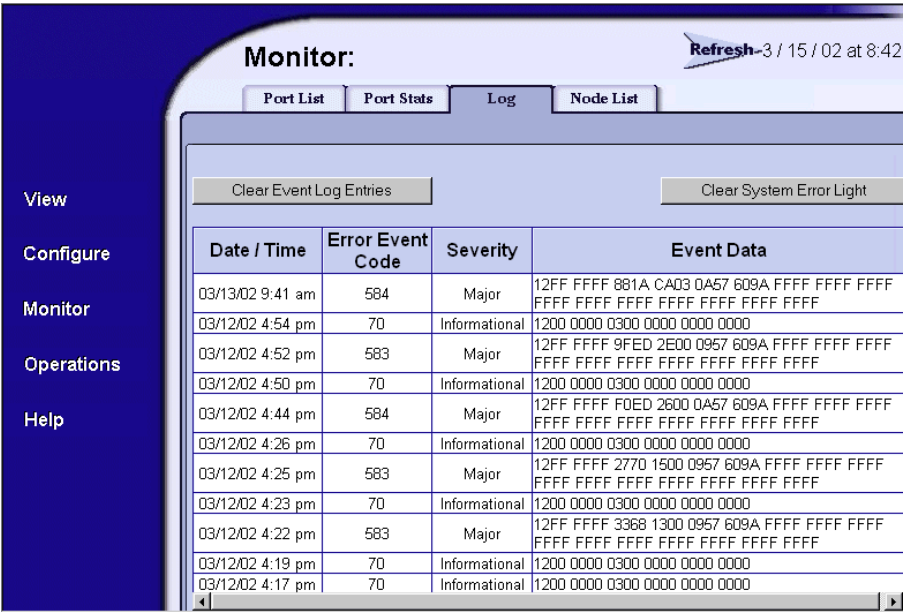

Figure 3-12 SANpilot Interface, Monitor Panel
- b. At the *Monitor* panel, click the *Log* tab. The *Monitor* panel (*Log* tab) displays (Figure 3-12).